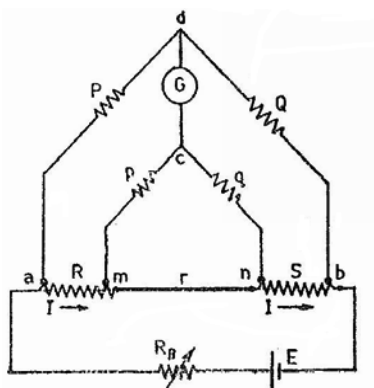

Figure 2 Kelvin Double Bridge
1. Connect the circuit as per Figure 2